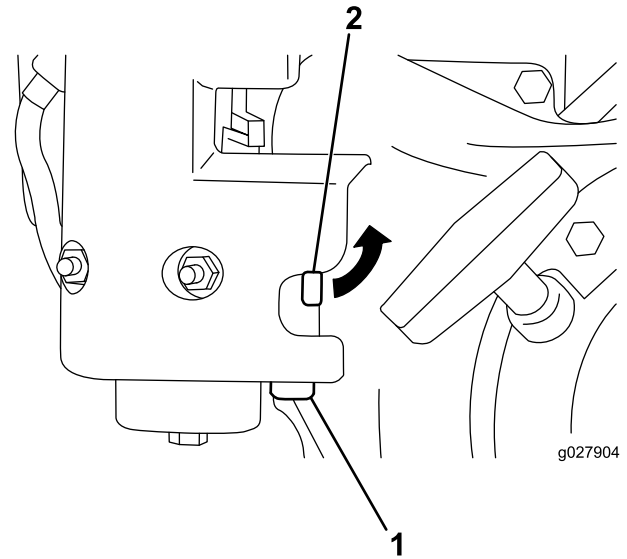

Figure 29
1. Close the fuel-shutoff valve and unscrew the sediment bowl from the carburetor body (Figure 29).